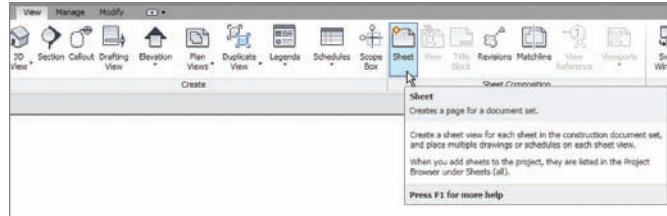

FIGURE 23.23 Creating a new sheet
1. On the View tab, click the Sheet button, as shown in Figure 23.23.